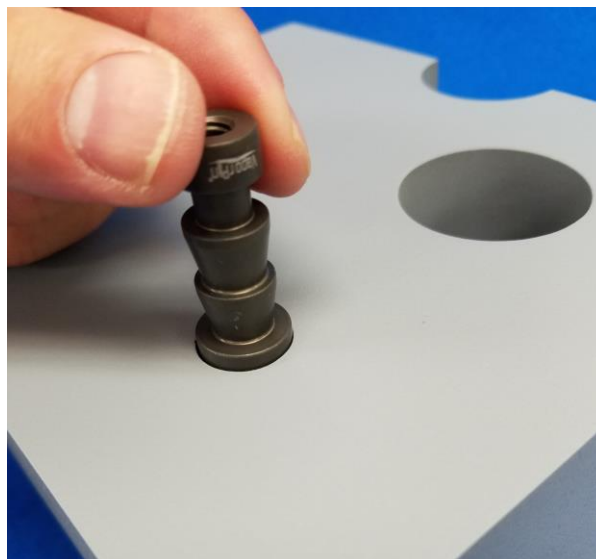

Figure 3. Testing the Hole Diameter
- 5) Ensure the diameter of the hole will accommodate the Mini Vapor Pin® sampling device by inserting the top of the Mini Vapor Pin® sampling device into the hole. It should be easily inserted (Figure 3). If the Mini Vapor Pin® sampling device is tight, ream the hole with the bit and re-try.